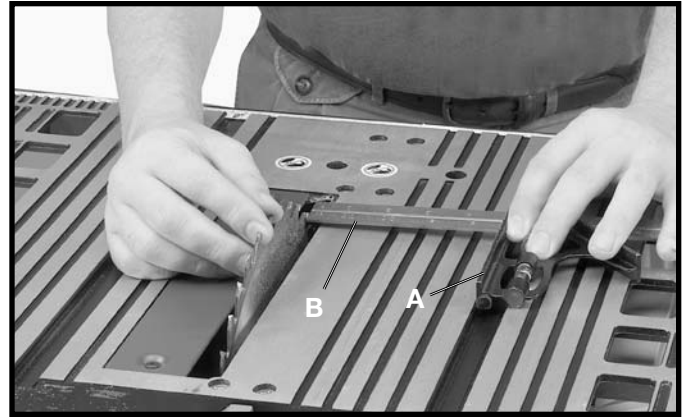
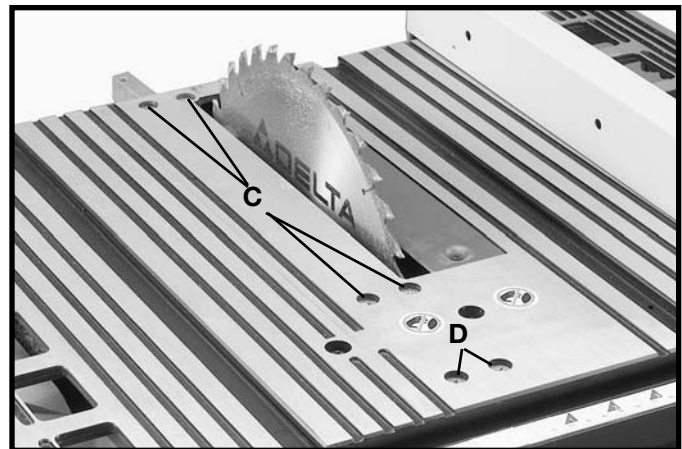

Fig. 32
Fig. 34
4. Using a combination square, place the body (A) Fig. 32, of the square against the miter gage slot and adjust the blade (B) of the square until it just touches the marked tooth, as shown.
6. If the front and back measurements, shown in Figs. 32 and 33, are not identical, loosen four screws (C) Fig. 34. Carefully grasp and move the saw blade until the blade is parallel to the miter gage slot. Then tighten four screws (C) Fig. 34, securely. **NOTE:** If sufficient adjustment cannot be achieved by loosening screws (C), screws (D) may also be loosened if absolutely necessary to make the adjustment.